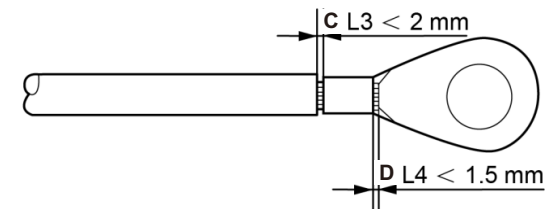

Figure 3.16 Strip wire
- 4) Insert the stripped wire into the OT terminal crimping area and use the hydraulic clamp to crimp the terminal to the wire (see Figure 3.16).